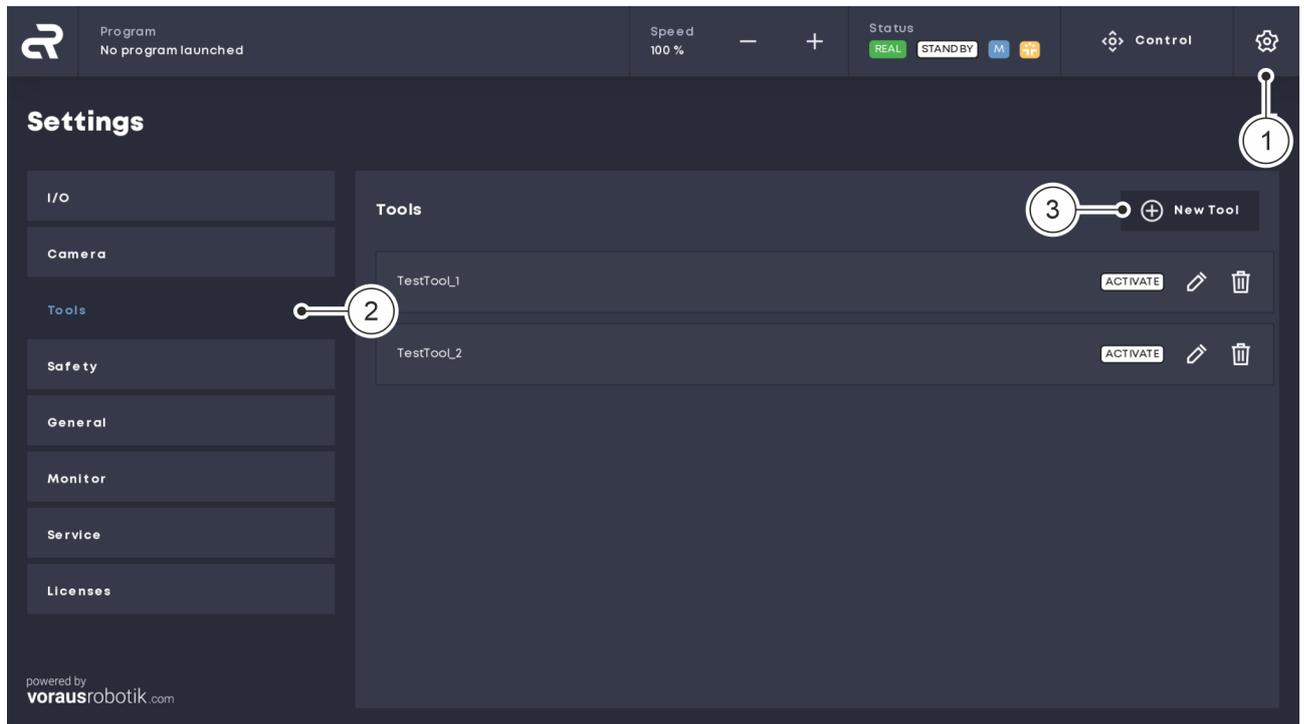

Fig. 19 Opening the 'Settings' menu
03. In the navigation bar, click on the gear icon Fig. 19/① to open the 'Settings' menu.
04. In the 'Settings' menu, click the 'Tools' button on the left-hand tab to open the tool settings window Fig. 19/②.
05. Click the 'New Tool' button Fig. 19/③.